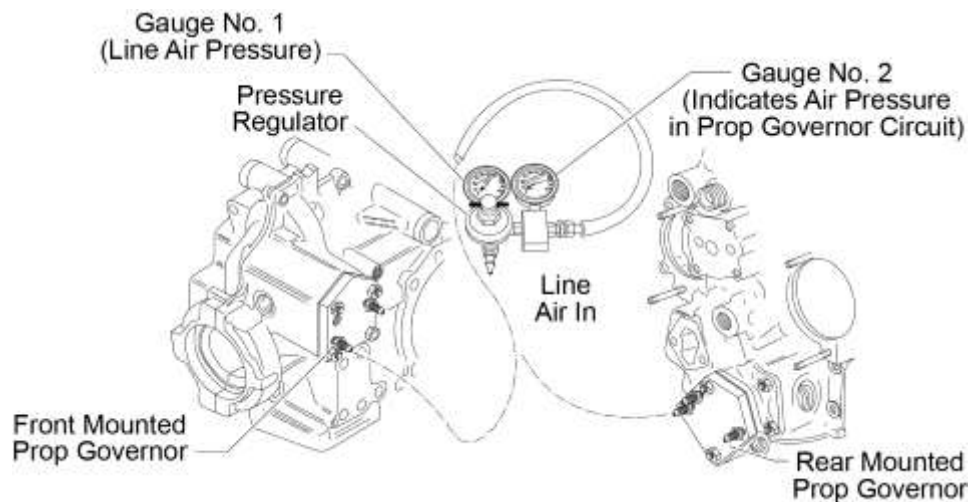

Figure 100
- (7) Apply shop air to the differential pressure regulator and adjust it to 40 psi (276 kPa) on the Gauge No. 1 (Figure 100). With the engine at operating temperature, the pressure reading on the Gauge No. 2 must read 6 to 35 psi (41 to 241 kPa), if the system is operating correctly.